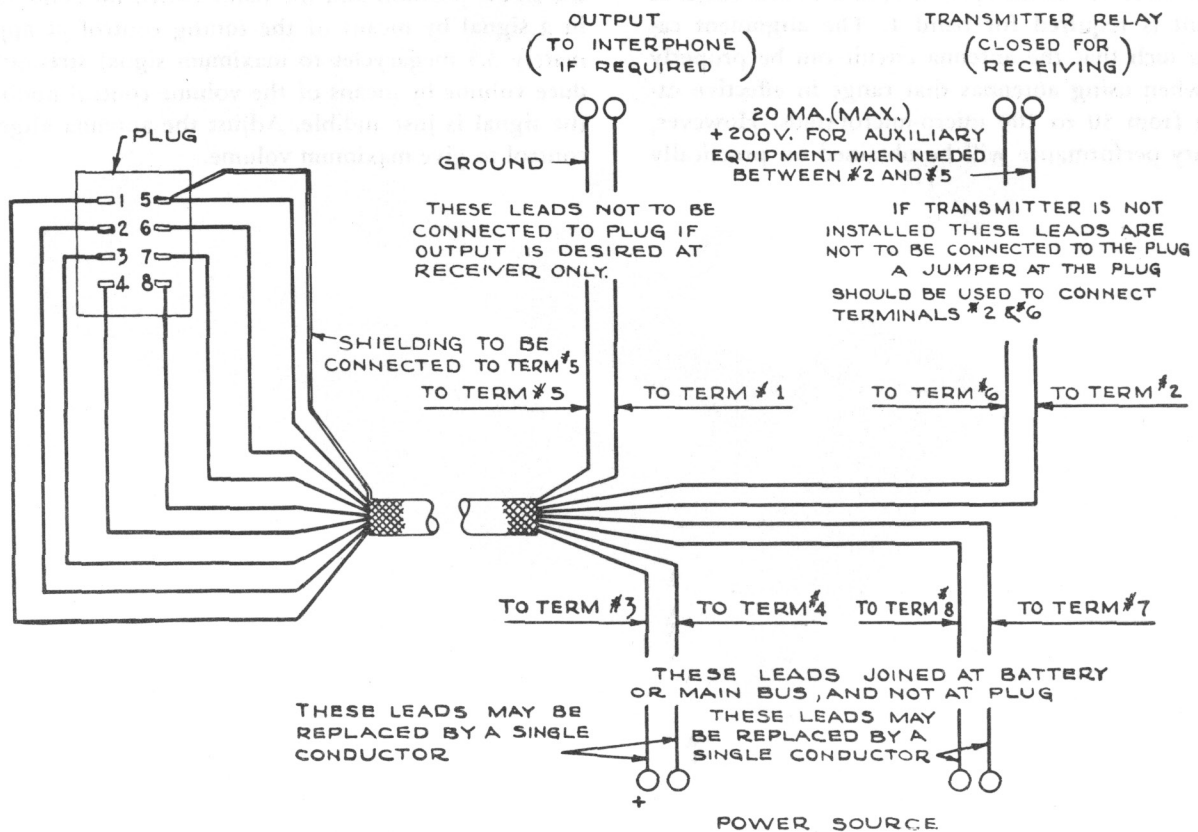

Figure 6 — Plug Connections
*b. POWER CONNECTIONS.*—The leads to the primary power source are connected as shown in figure 6. The parallel connected leads from plug terminals 3 and 4 may be replaced by a single conductor of cross section equivalent to the two separate leads. Similarly, the parallel connected leads from plug terminals 7 and 8 may be replaced by a single conductor of equivalent cross sectional area.